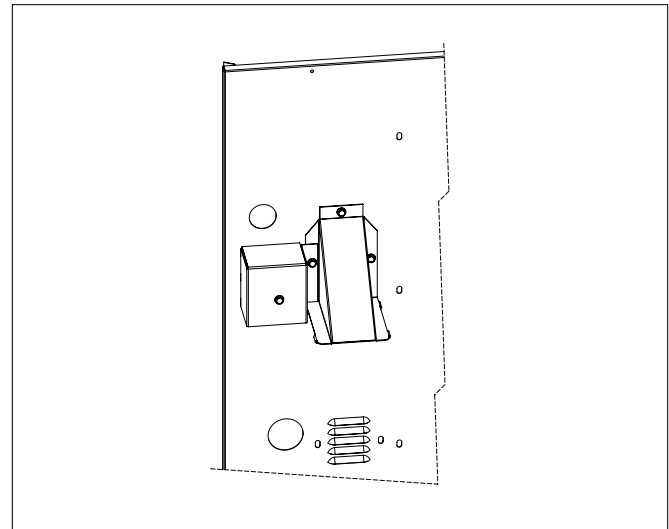

Figure 6. Ambient Sensor Mounting
6. Bend the mounting bracket into position. Install the vent cover screw to the mounting bracket as shown in figure 6.